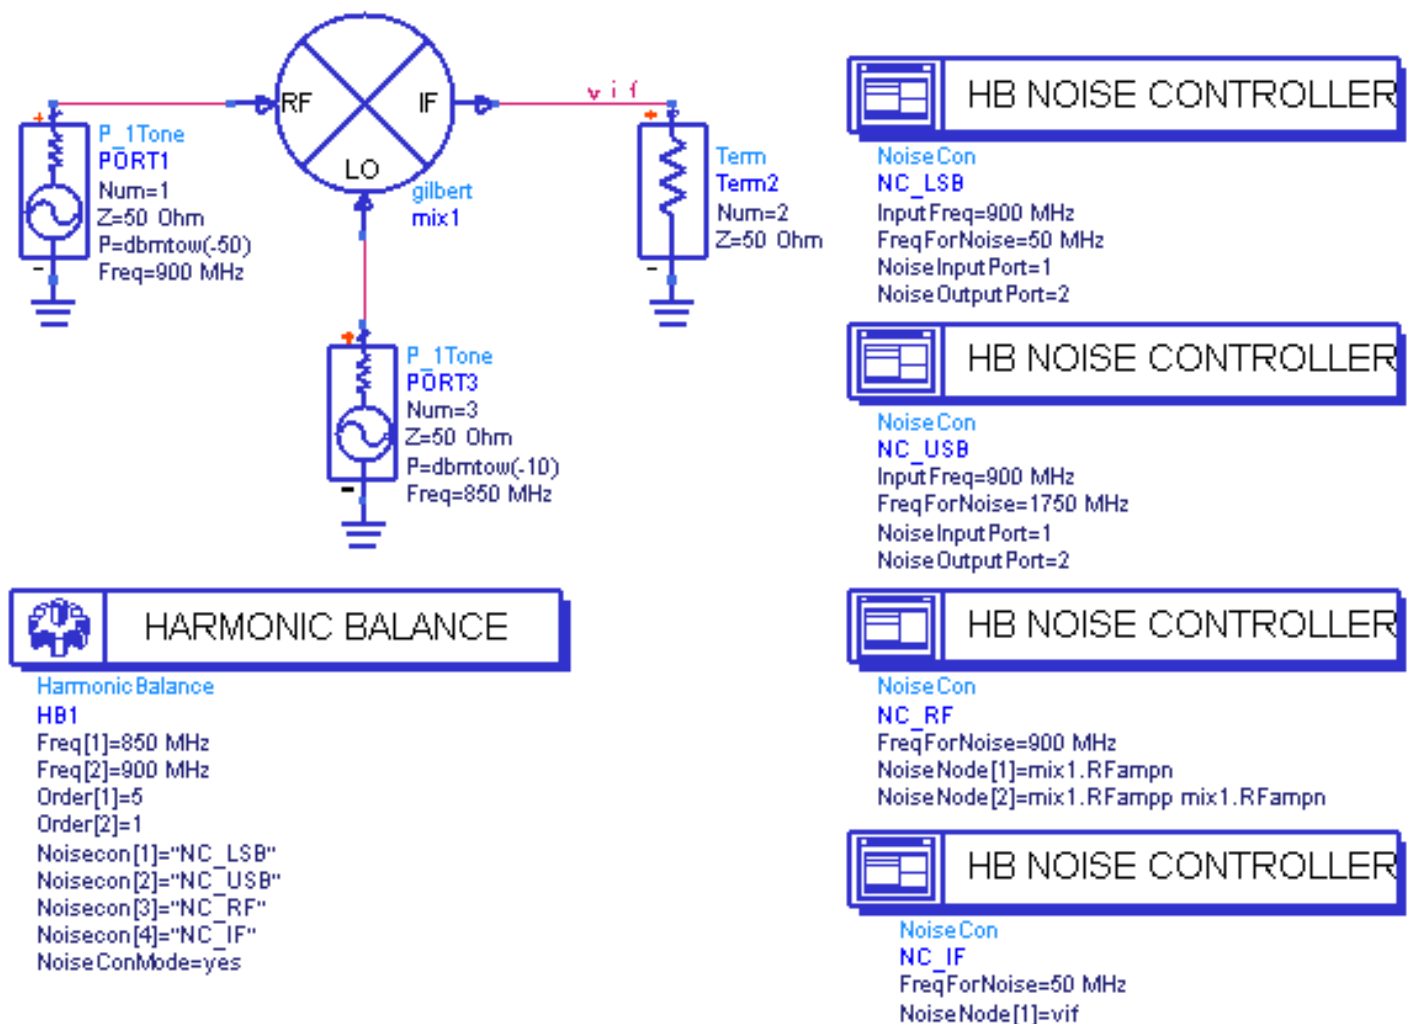

Figure 4-7. Example demonstrating NoiseCons with a mixer
**Figure 4-7** shows a mixer that will be used to demonstrate the use of NoiseCons components with a mixer.